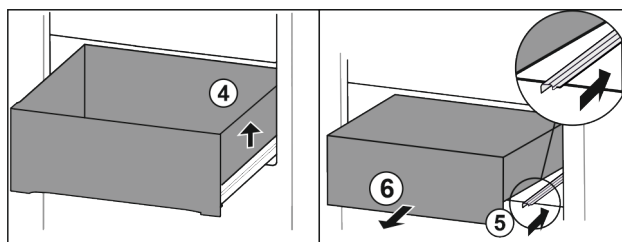

Fig. 96
- ▶ Lift drawer on the right. Fig. 96 (4)
- ▶ Insert right rail. Fig. 96 (5)
- ▶ Remove drawer to the front. Fig. 96 (6)